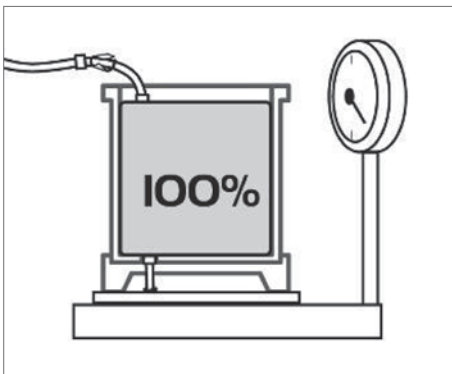

Fig. 22
6. Fill the bag to its nominal capacity (see Fig. 22) and stop the filling.